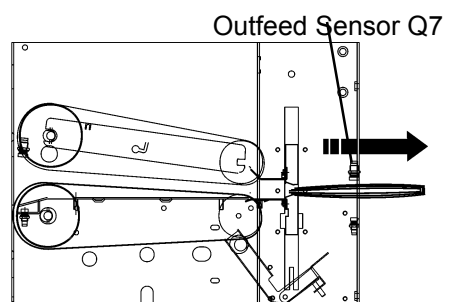

FIGURE 4
5. When the Clamps are in their upper position Transport Belt Motor M1 and Belt Stacker Motor are energized to feed out the set. **FIGURE 4**